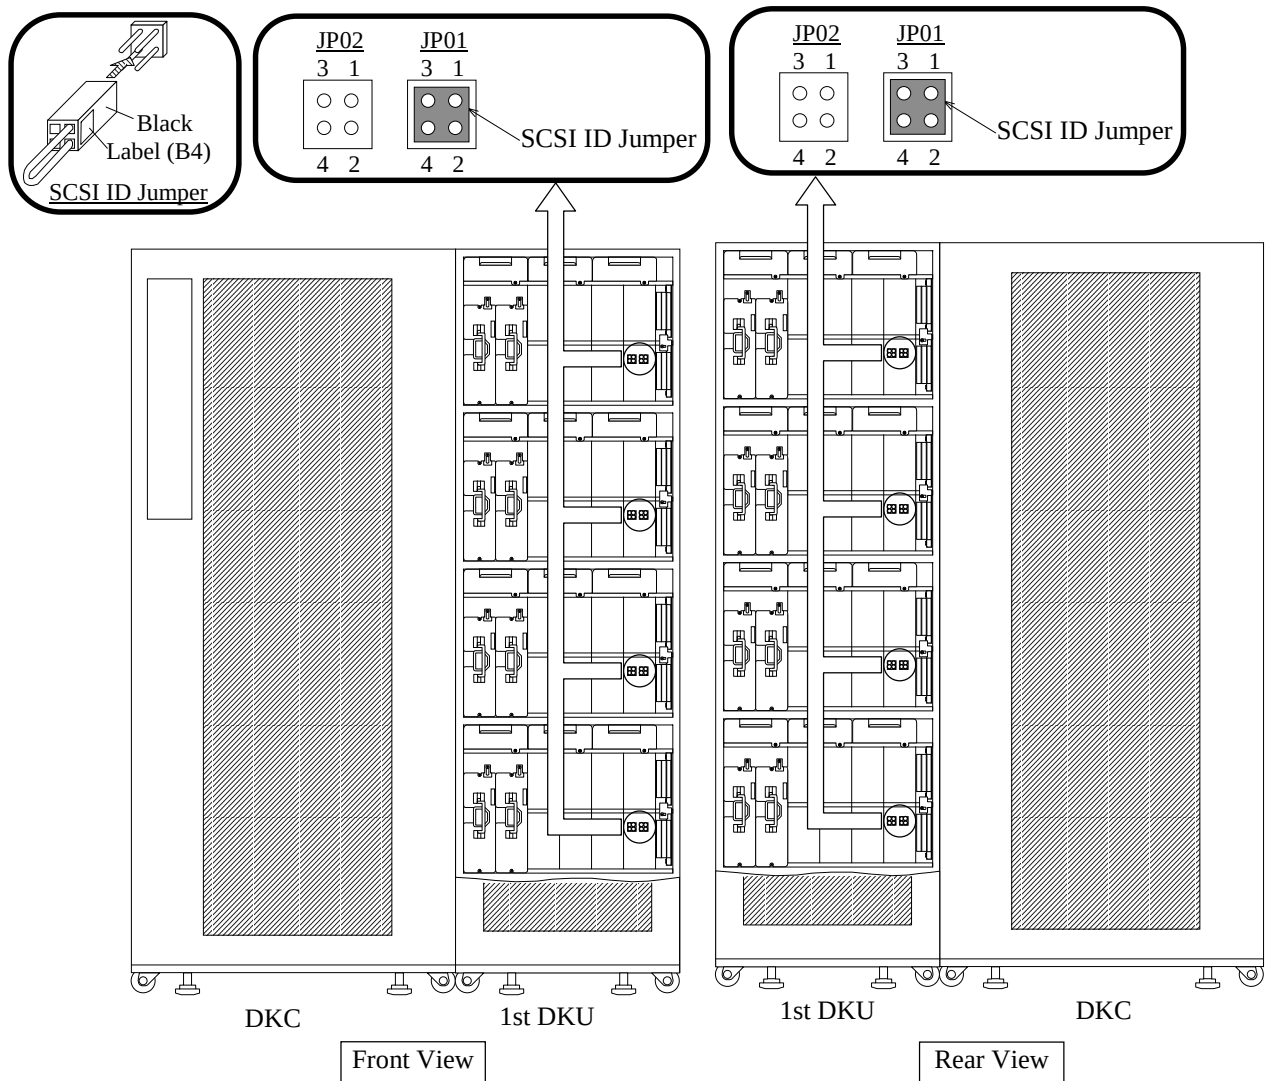

Fig. 3.3.6-1 Setting the SCSI ID Jumpers
2. Check the SCSI ID jumpers on the HDD back boards. Refer to Fig. 3.3.6-1.